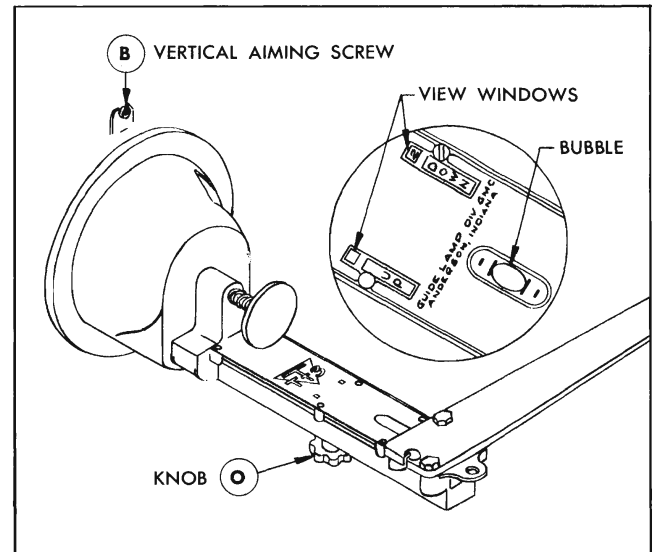

Fig. 11-126 Calibrating for Unlevel Surface
1. Loosen knob "O" on aimer (Fig. 11-126) and move slider until bubble is centered.